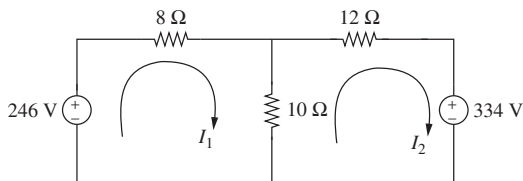

Figure P7.2 Two-loop circuit for problem P7-2.
- 7-2.** Consider the two-loop circuit shown in Fig. P7.2. The currents I_1 and I_2 (in amps) satisfy the following system of equations: